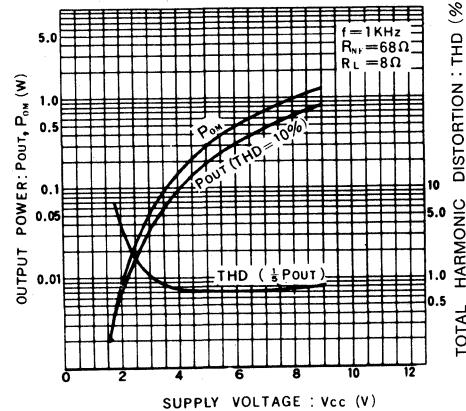

Fig. 2 定格出力電力
- 1) Output of 330mW (THD=10%) at 8Ω load and 6V operation (See Fig. 2).